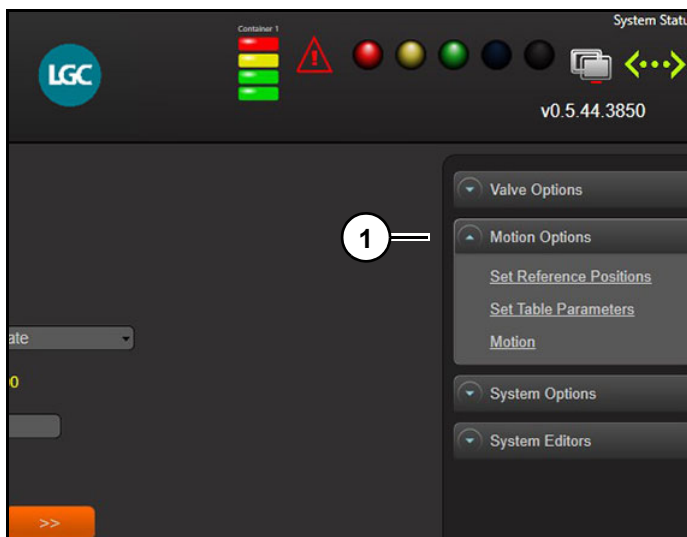

Figure 29
Allows user access to motion options (1) (Figure 29) including, Set Reference Point, Set Table Parameters, and Motion options.